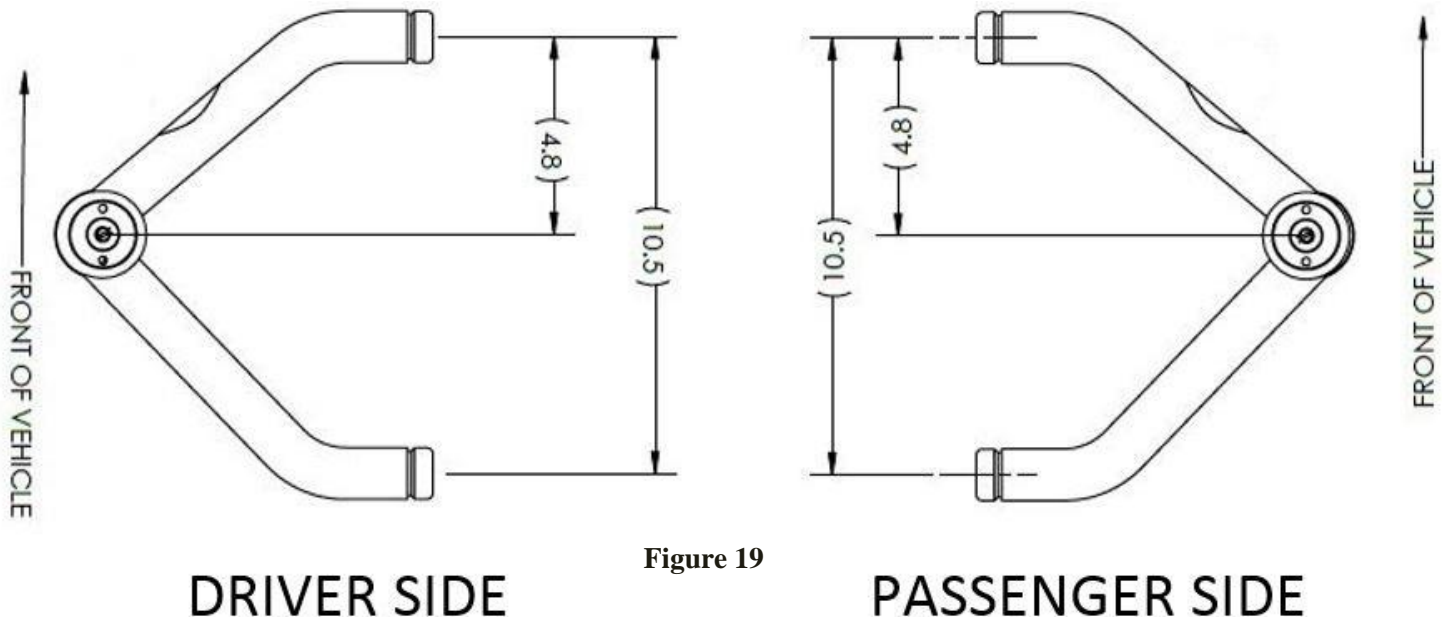

Figure 19
- Identify the right and left upper control arms using the diagram below, noting that the ball joint is biased towards the front of the truck. (**Figure 19**)